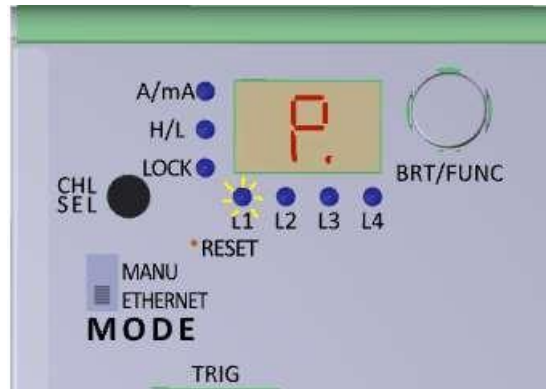

Fig 11
-Rotate the Knob to Select Current Mode / Power mode (Fig 11)